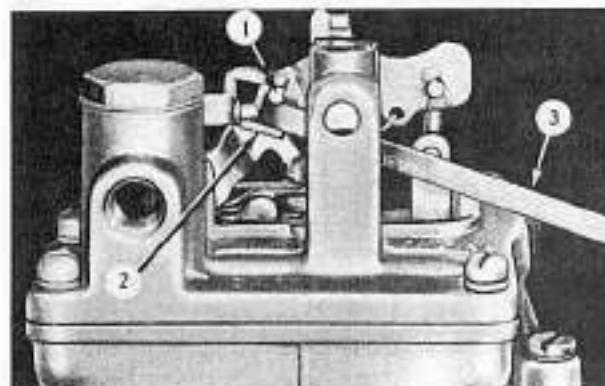

FIG. 409
After adjusting the top finger of the vacuum piston link, check the clearance between the bottom of the pump operating lever pin (1, Fig. 409) and the bottom finger of the vacuum piston link (2), using a $3/16"$ (4.763 mm.) gage (3) (Float Gage J-818-3). If an adjustment is necessary, using Adjusting Tool T-109-105, bend the lower finger of the vacuum piston link to obtain the proper clearance.